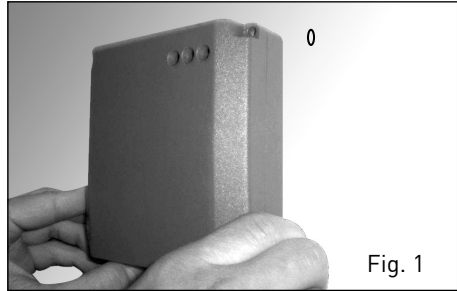

Fig. 1
- hook the control unit onto the screw positioned on the wall beforehand (fig. 1).